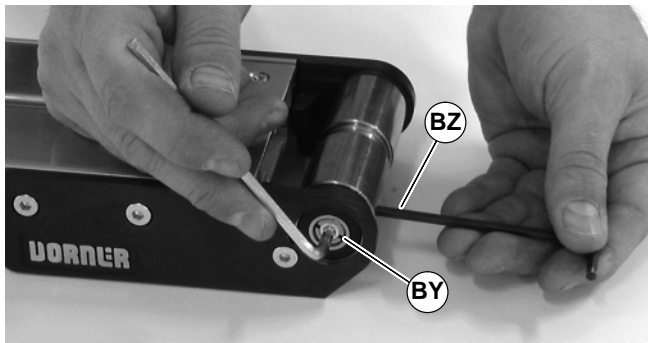

Figure 52
3. On both sides of pulley, use a 4mm hex-key wrench to tighten pulley taper screw (BY of Figure 52) to 4 Nm. Steady pulley with second hex-key wrench (BZ) inserted into pulley hole.